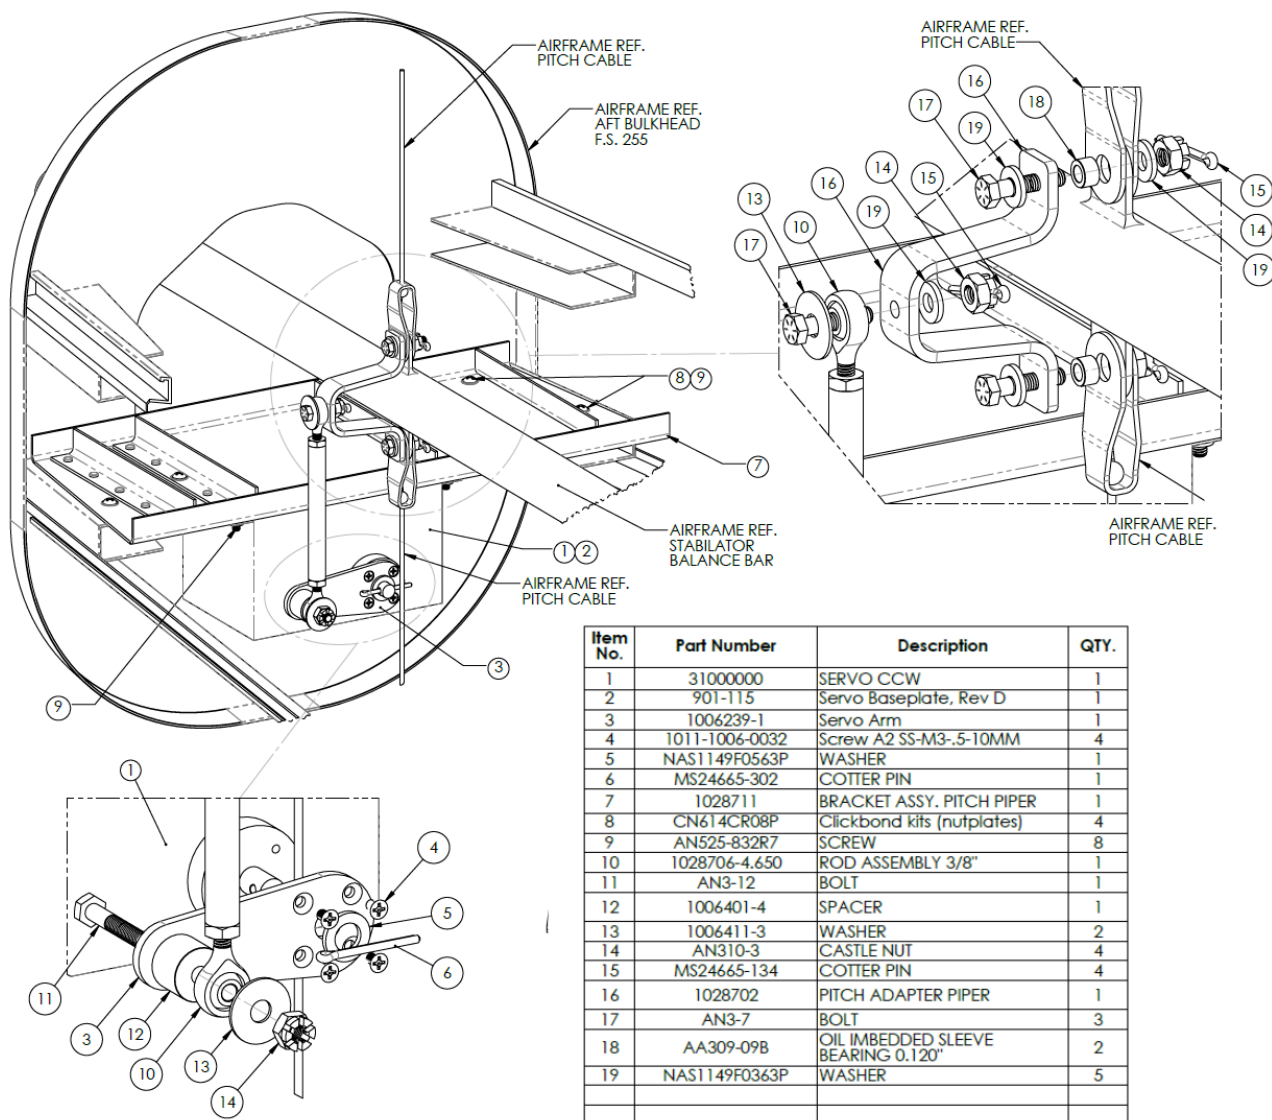

FIGURE 4-9 ~~10~~ PITCH ASSEMBLY EXPLODED VIEW
- 4.2.3 Place the pitch servo bracket as far aft as possible on top of the (2) lower steel airframe gussets and clamp in place. Refer to Figure 4-9 and 4-10.
- 4.2.11 Position the pitch servo on the pitch servo bracket (mounting of the pitch servo to pitch bracket can be accomplished later if necessary). Refer to Figure 4-9 and 4-10.
- 4.2.14 Fasten the pitch adapter to the stabilator clevises. Refer to Figure 4-9, 4-10 and the applicable STC Group Illustrated Parts Catalog.
- 4.2.16 Attach the pitch servo push pull rod to the servo arm using the hardware supplied. Refer to Figure 4-9, 4-10 and applicable STC Group Illustrated Parts Catalog.
Refer to Figure 4-9, 4-10 and applicable STC Group Illustrated Parts Catalog.